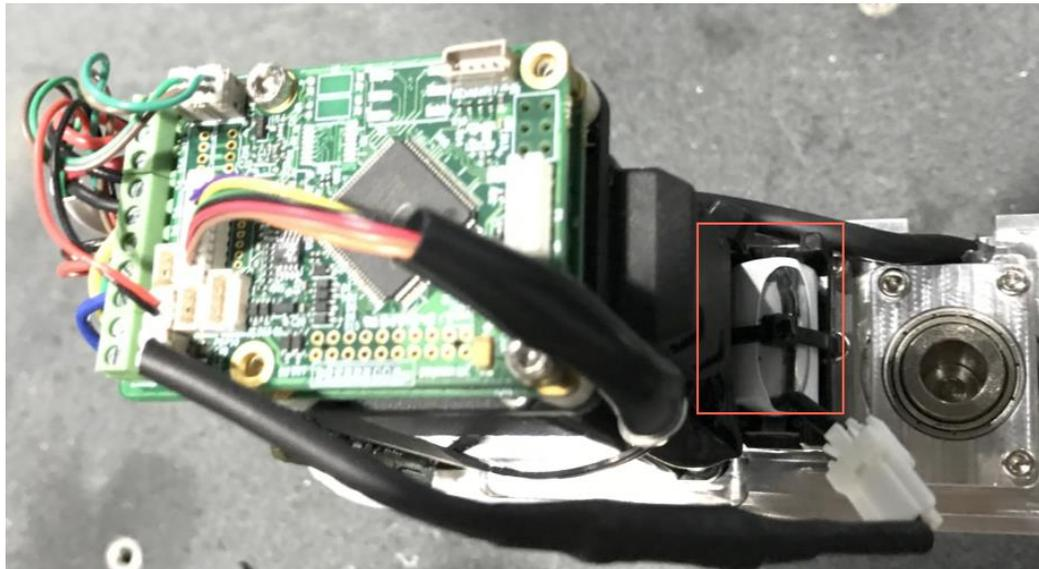

Figure 7.8 Location of battery holder on Forearm
2. Cut off the wire tie that fixed the original battery, as shown in Figure 7.8.